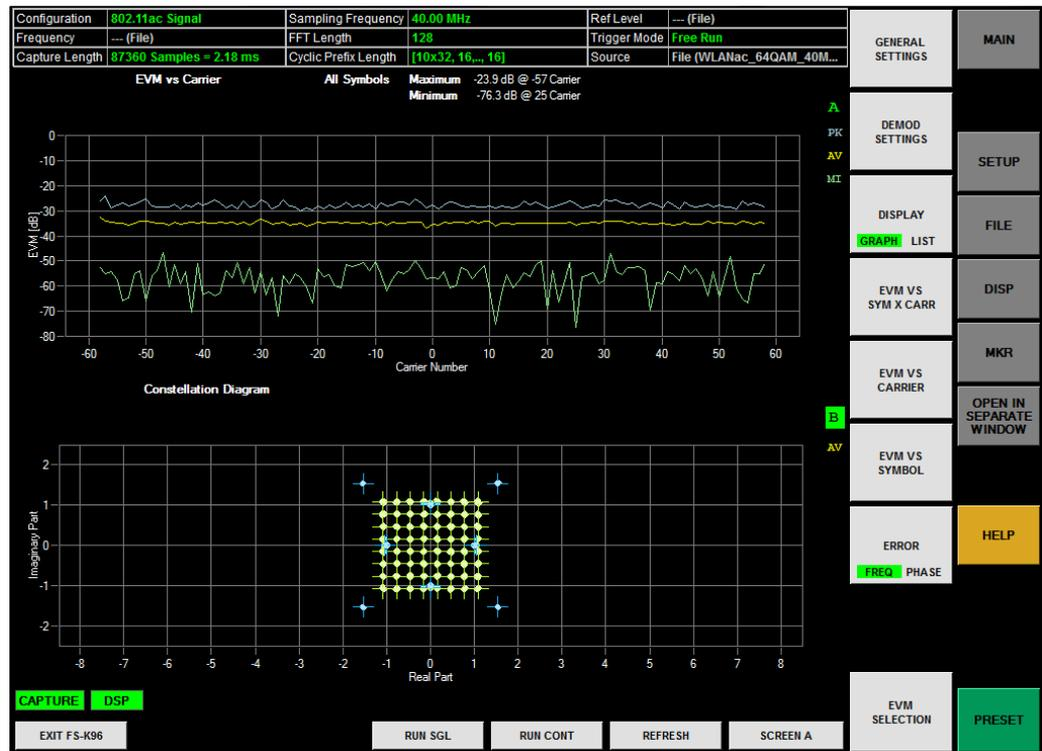

Figure 35: EVM vs. Carrier and Constellation diagram for the 40 MHz 64 QAM example file supplied with this application note.
- Returning to the R&S FS-K96 Software window the analysis of the 802.11ac signal can be started. Press the refresh button once and select the desired result type. (e.g. EVM vs. Carrier and Constellation diagram as in Figure 35).